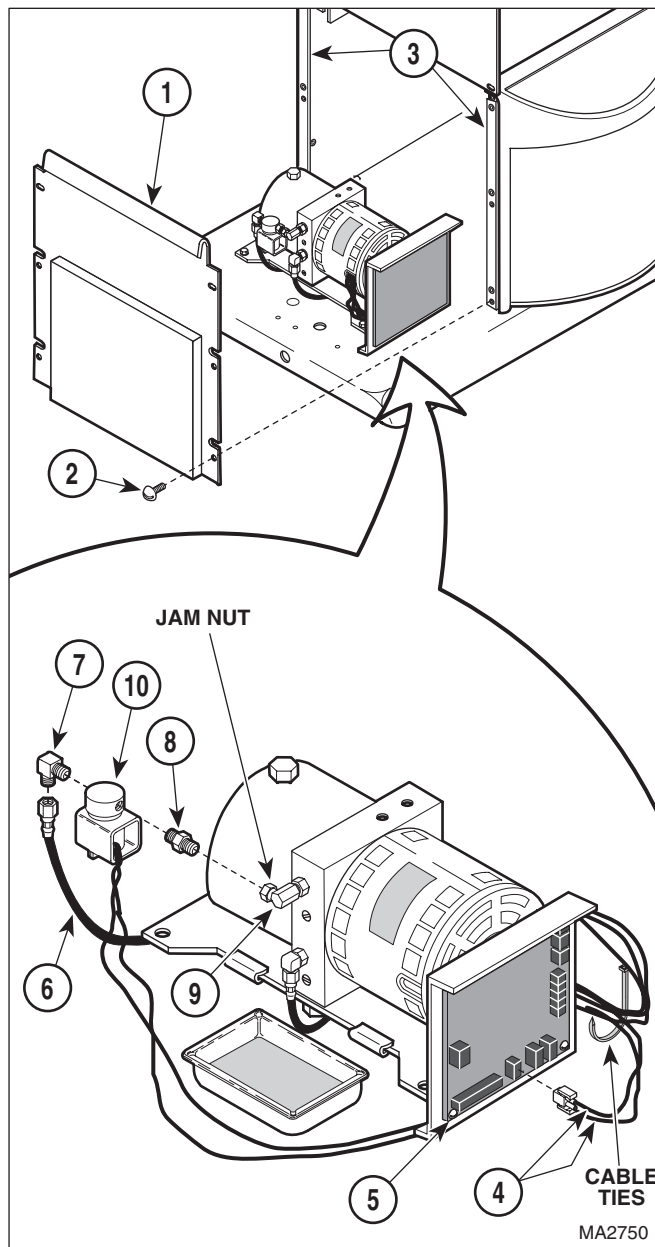

Figure 4-5. Anti-cavitation Solenoid Valve Removal / Installation
- (1) Unplug table power cord from outlet.
- (2) Remove motor cover assembly (Refer to para 4.2).
- (3) Remove four screws (1, Figure 4-5) and back outer shroud (2) from left and right hand outer shrouds (3).
- (4) Disconnect anti-cavitation wire harness (4) from PC control board (5).